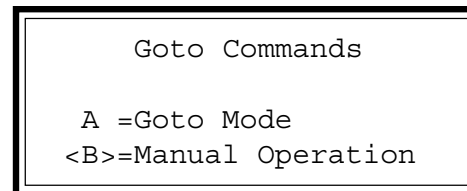

Figure 6-45 Go To Commands Screen
1. Press SHIFT-GO TO. The 3100 displays the screen in Figure 6-45.